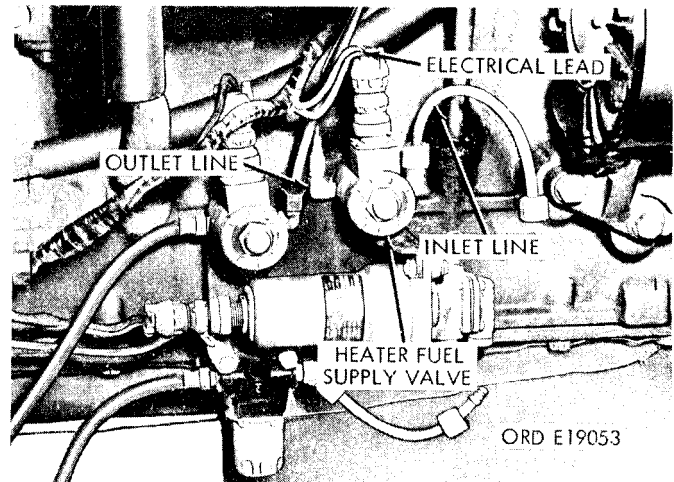

Figure 2-93. Manifold heater supply and fuel return valves-- multifuel engine LDS 465-1.
(1) Disconnect the electrical lead and inlet and outlet lines from heater fuel supply valve and / or fuel return valve (fig. 2-93).
- (1) Secure the supply and / or return valves to the bracket (fig. 2-93).
- (2) Secure the fuel pump and filter bracket to the crankcase with the three lockwashers and cap screws.
- (3) Connect the electrical lead and fuel inlet and outlet lines to the supply valve and / or return valve (fig. 2-93).